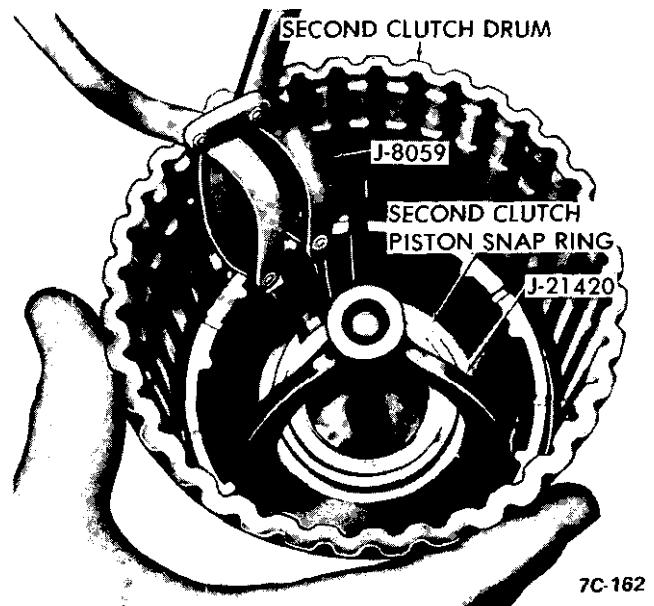

Figure 7C-162
6. Remove second clutch assembly to third clutch assembly bronze thrust washer. See Figure 7C-161.